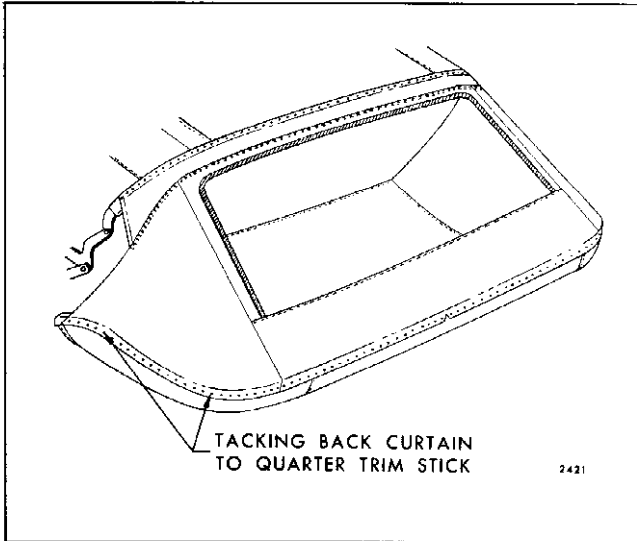

Fig. 13-18 — Back Curtain Installation
9. Tack remainder of back curtain material to rear quarter trim stick (Fig. 13-18).